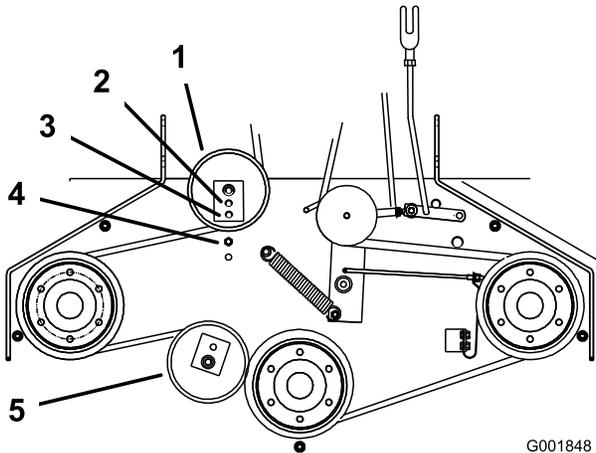

Figure 44
6. If there is no adjustment left in the turnbuckle and the belt is still loose, the rear idler pulley needs to be positioned to the middle or front hole (Figure 44). Use the hole that will give the correct adjustment.
7. When the idler pulley is moved the belt guide must be moved. Move the belt guide to the front position (Figure 44).